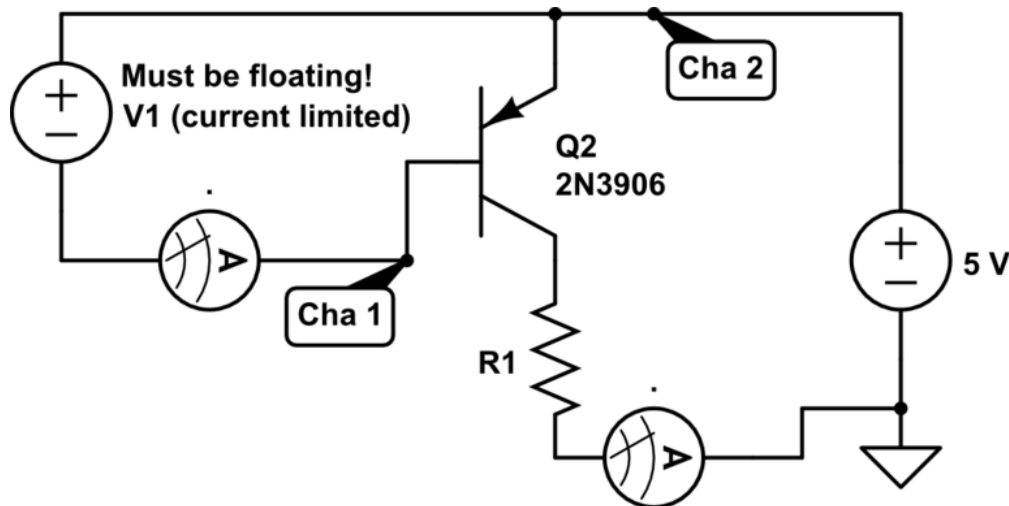

Figure 6: A 'high side' switch. When turned on, one side of the load is pulled to 5 volts through the transistor.
- Using the same current limit setting and the same current limiting resistor (or resistors) as in the previous section, construct the circuit shown in figure 6.